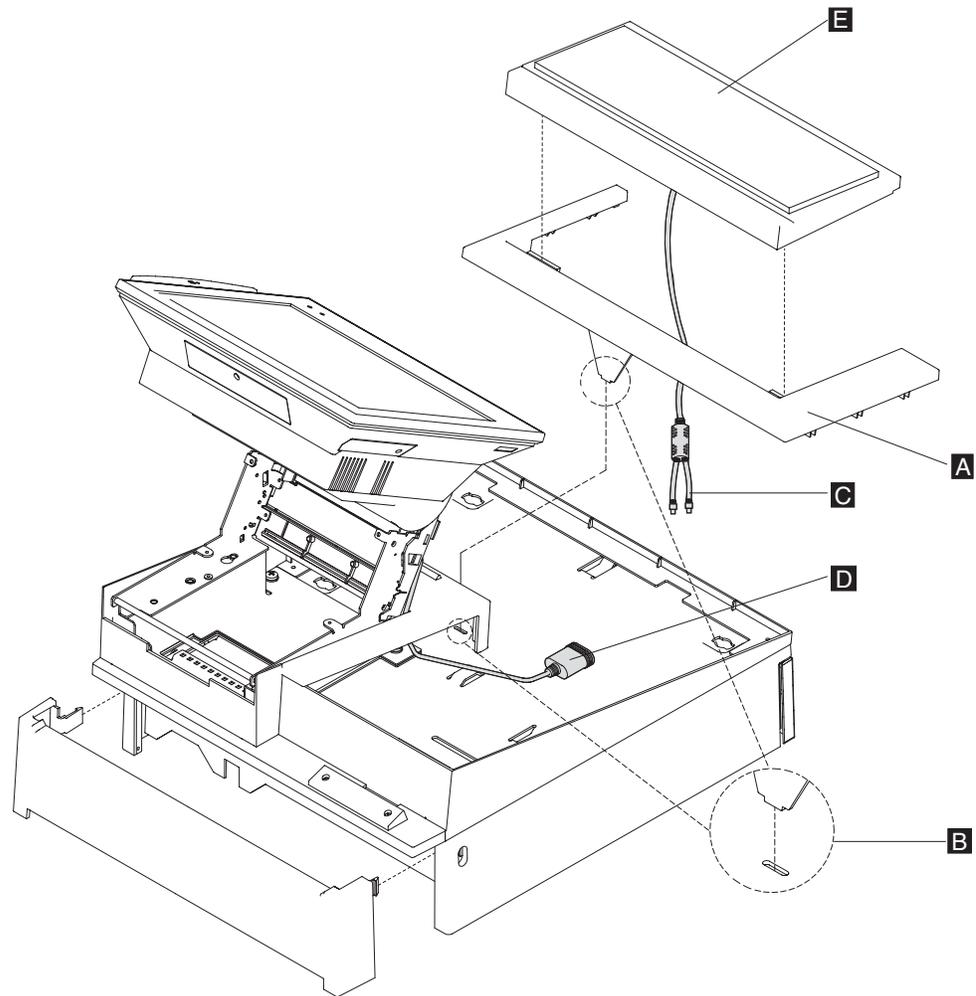

Figure 45. Removing the keyboard from the integration tray
- a. Remove the keyboard **E** from the keyboard integration tray by lifting the keyboard up and off the keyboard integration tray, as show in Figure 45 on page 47.
- b. Remove the keyboard filler panel **A**. For reassembling, observe that the keyboard filler panel is inserted into the slot on integration tray, as show in exploded view **B**, as show in Figure 45.